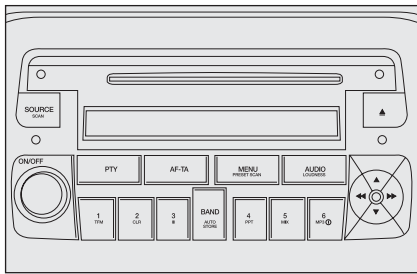

fig. 3
- with sound system **fig. 3**.